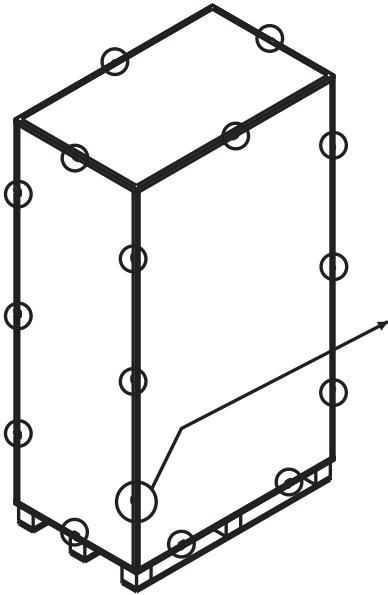

Figure 4.1
1. Once the UPS system has arrived at the installation site, it may be removed from the packing box. Follow the unpacking procedure below to remove main carton (Figure 4.1) and protective materials (Figure 4.2).